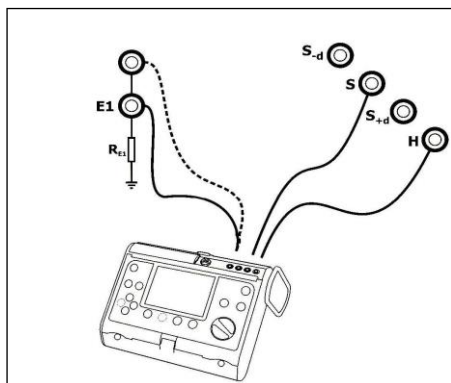

Fig. 8. Connection of the meter
- connect the earth resistance meter (MRU-XXX) to the sockets in accordance with Figure 8,